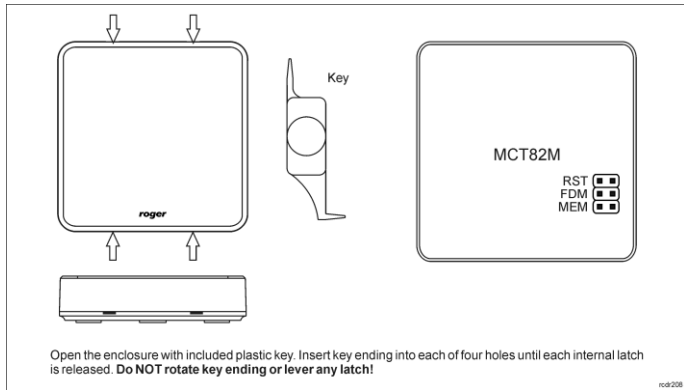

Fig. 3 MCT82 enclosure opening and location of service contacts
Note: Remote configuration of device from VISO v2 software is possible only if jumper is placed on MEM contacts (fig. 3). If the jumper is removed then such configuration is blocked. In case of factory new device, jumper is placed on MEM contacts.
In RACS 5 v2 system the reader can be installed at site without previous configuration. According to AN006 application note, its address and other settings can be configured from VISO v2 management software and during such configuration the access to its service contacts (fig. 3) is not required.
2. Remove jumper from MEM contacts (fig. 3) if it is placed there.
2. Place jumper on FDM contacts (fig. 3).